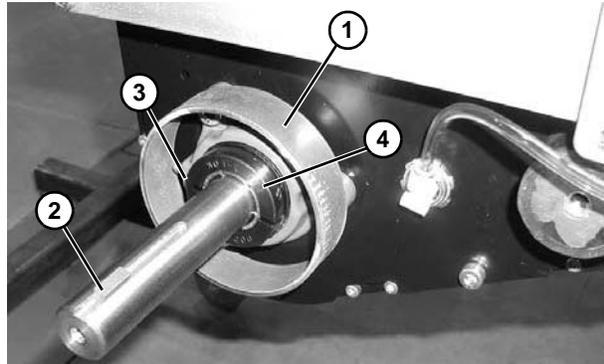

Figure 87
3. Remove spacer ring (Figure 87, item 1) and key (Figure 87, item 2). Loosen clamp screw (Figure 87, item 3) and remove bearing collar (Figure 87, item 4).
7. Reinstall bearing collar (Figure 87, item 4). Tighten clamp screw (Figure 87, item 3) to 95 in-lbs (11 N-m).
8. Reinstall key (Figure 87, item 2).